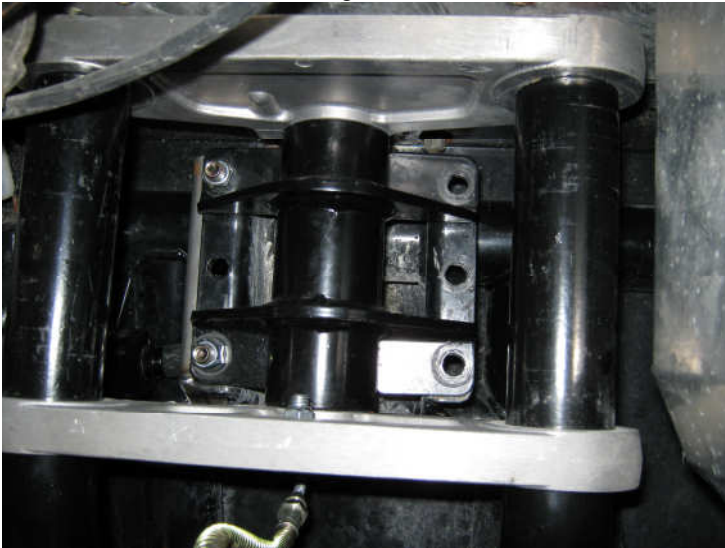

Figure 4. Nuts and bolts are removed on LH side
1. Remove the ½” nuts and bolts (Figure 4) **one side at a time**. Discard old hardware.